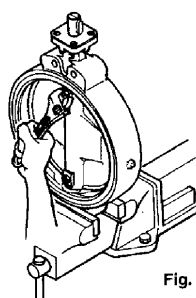

Fig. 32
- 3 Remove the shaft pins and tap out the pins using a soft mallet. (Fig.32/33)